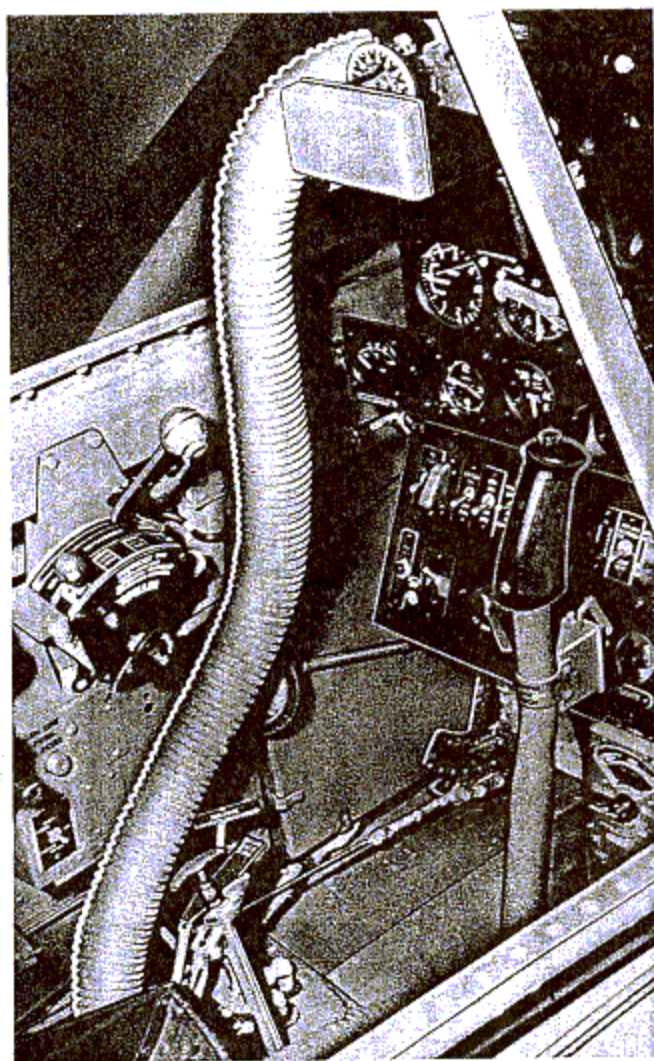

Figure 298—Windshield Defrosting Tube
(2) WINDSHIELD DEFROSTING.—The flexible duct used for auxiliary heating may also be employed for windshield defrosting. (See figure 298.) The duct is held in a set position near the windshield by a clip attached to the anti-glare shield. The windshield then receives the full effect of the hot air released from the duct.
(3) WING GUN HEATING.—The wing guns in each panel are heated by a continuous unchecked flow of hot air through a flexible duct, one extending from each side of the coolant-radiator and oil-cooler air exit duct, into an opening in the leading edge of each wing panel. The ducts continue through the nose section of the wing panels to the gun installations.